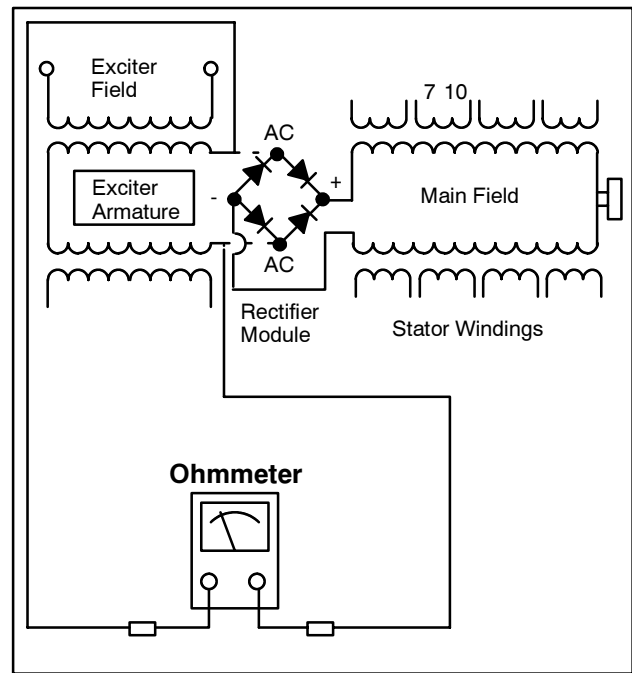

Figure 7-21. Exciter Armature Ohmmeter Test
2. With an ohmmeter on the R x 1000 scale, check resistance across exciter armature leads. See Figure 7-21. The armature resistance is found in Specifications-Generator of Section 1. No continuity indicates an open armature winding. If the resistance test proves inconclusive, perform a megohmmeter test on the exciter armature as described in the next step.